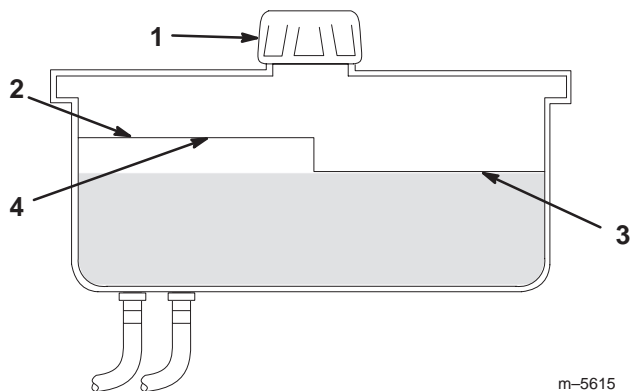

Figure 40
2. Clean area around filler neck of hydraulic tank (Fig. 40).
3. Remove the cap from the filler neck and look inside to check if there is fluid in the reservoir (Fig. 40).
Note: The fluid level should be to the top of the Hot level of the baffle when the fluid is hot (Fig. 40).